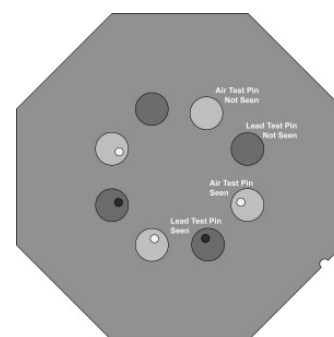

Figure 4. Working thickness range. Three examples of white clipping and two examples of black clipping
- **Low-contrast detectability:** Four sets of holes with diameters of 4 mm, 3 mm, 2 mm, and 1 mm are filled with elemental iodine dispersed in epoxy. The relative areal concentration of iodine in the four patterns is 20, 10, 5, 2.5 mg/cm². The test operator is required to identify the smallest visible pair of targets in each pattern. See Figure 4.
- **Working thickness range:** The ability to image structures overlaid by bone or air. Systems with inadequate single-image latitude are unable to do this in bright (air) or dark (bone) portions of the image. The NEMA Cardiology Phantom contains eight cylinders composed of different heights of air, aluminum and plastic. These cylinders are calibrated for a total 20 cm phantom thickness. A 50 mm deep air challenge target overlaps the four air cylinders. The bright side dynamic range is determined by how many of these targets are seen. A 5 mm lead challenge target overlaps the four aluminum cylinders. The dark side dynamic range is determined by counting these targets. See Figure 4.